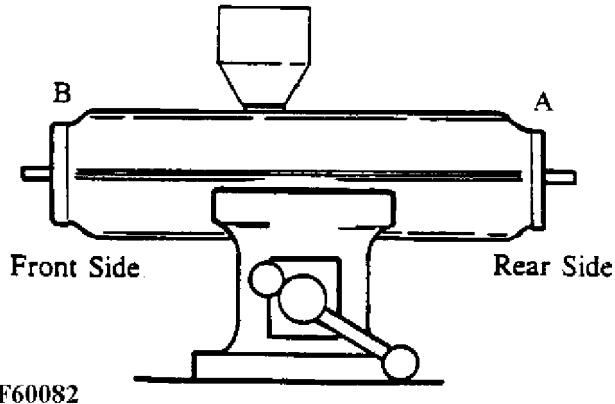

Fig. 16: Converter in Level Position
6. Hold the converter level in the vise. See Fig. 16.